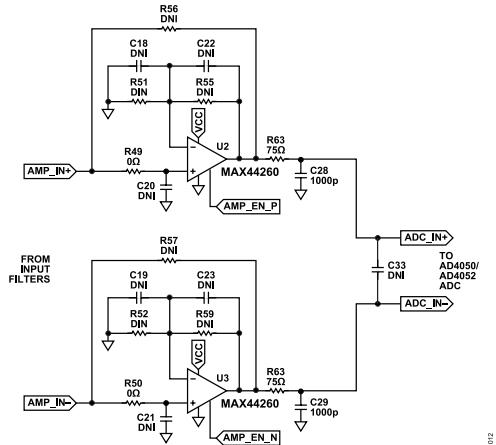

Figure 12. Default Amplifier Circuit Simplified Schematics
- ▶ **MAX44260** op amps in 6-lead SC70 footprint configured as unity-gain buffers by default (see Figure 12)